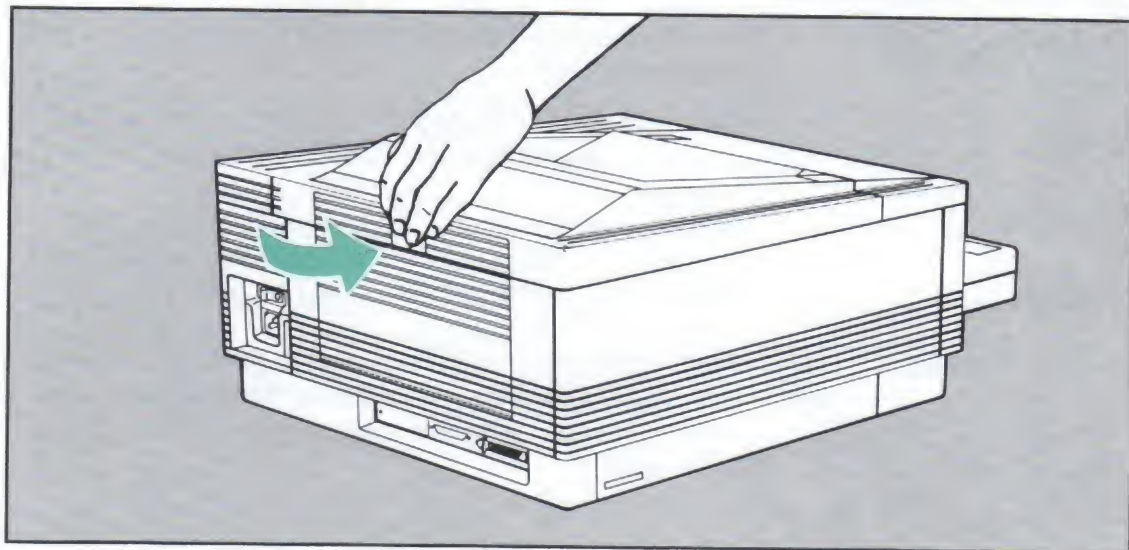
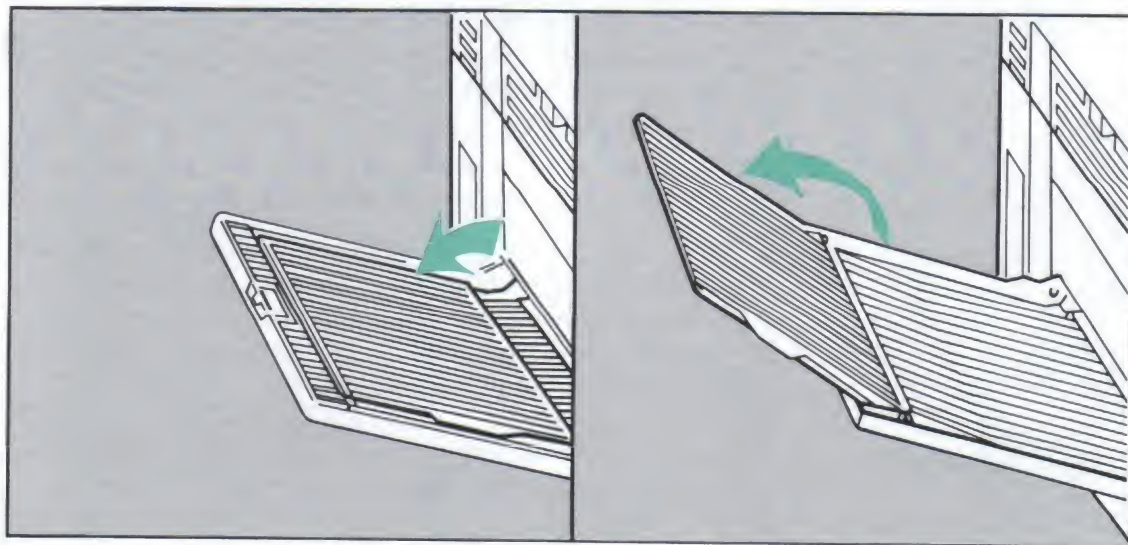

Figure 5-2. Locating the Face-up Output Tray Release Latch
Figure 5-3. Opening the Face-up Output Tray
2. Reach behind the printer and touch the press-and-release latch located near the top center of the back of the printer (refer to Figure 5-2). The door springs open. Lower the tray to its resting position and extend the folded panel fully outward (refer to Figure 5-3).